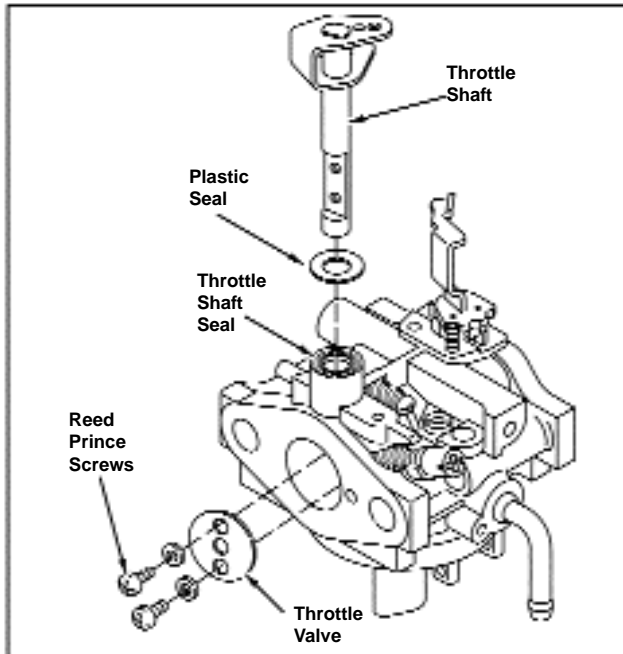

Figure 20 - Removing Throttle Valve and Throttle Shaft with Seats
1. Remove two (2) screws from throttle valve and remove throttle valve, Figure 20.